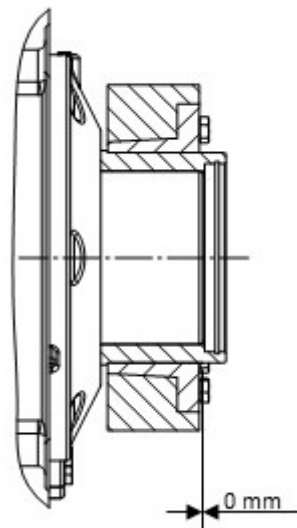

Figure 15: Fitted shrink disc
8. After tightening the tensioning bolts the face of the inner ring on the screw side must be flush with the face of the outer ring. The shrink disc must be checked visually for distortion (Figure 15).